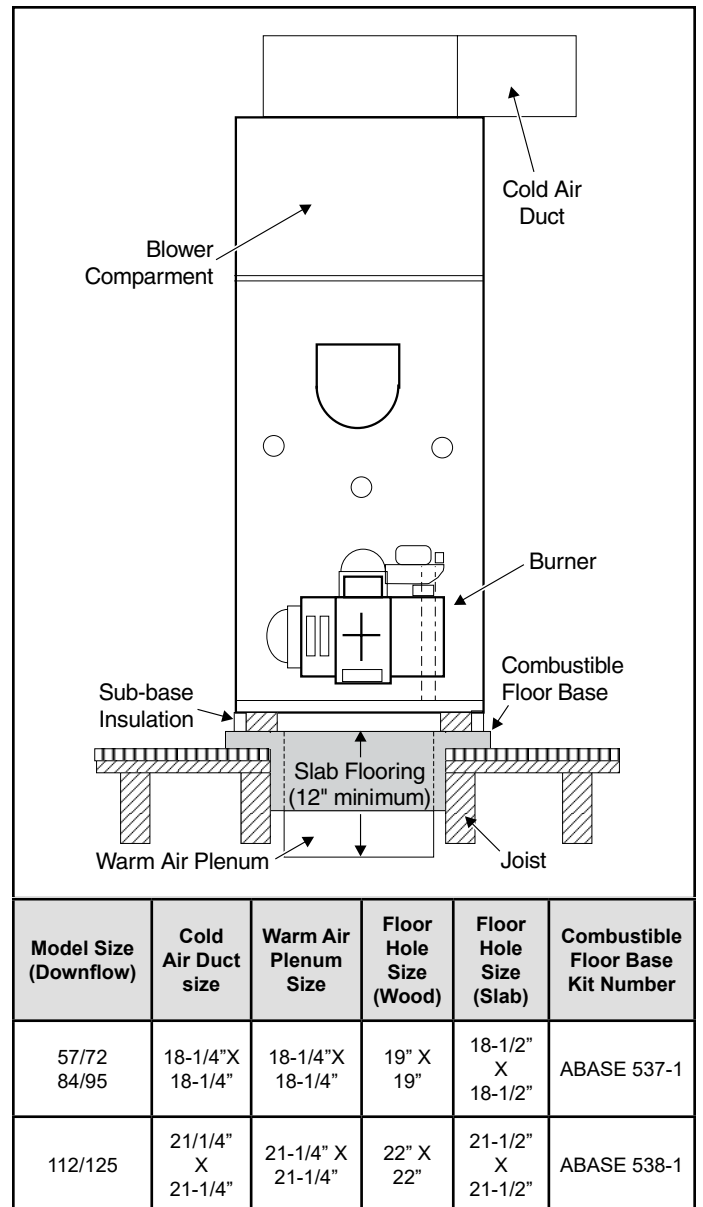

**Figure 3. Counterflow (Closet Installation)**
See Table 1 for a complete listing of the minimum clearances required for basement type and upflow installations. See Figure 2 for the minimum clearances required for horizontal installations and Figure 3 for the minimum clearances required for counterflow installations. **When accessibility clearances are greater than fire protection clearances, the accessibility clearances take precedence.**
3. Refer to Figure 3 for minimum clearances required.